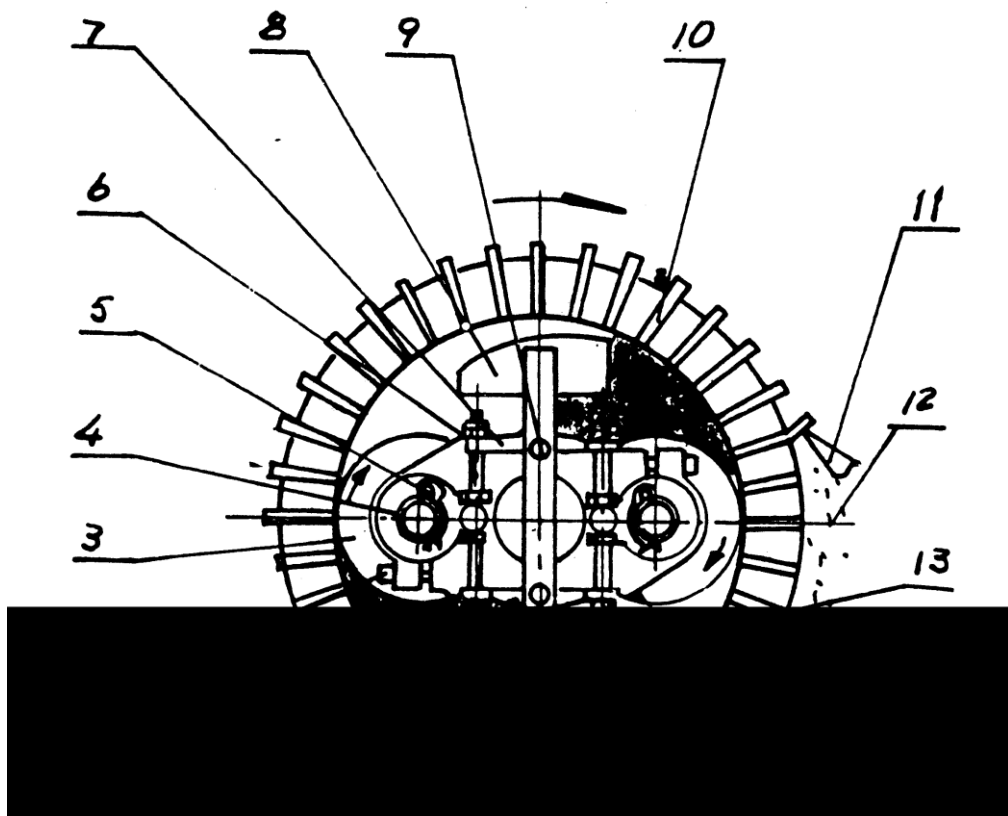

Figure 12 PELLET CHAMBER WORKING PRINCIPLE
See Figure 12 for the structure and working principle of the pellet chamber. It mainly consists of a die (1), two rollers (3), deflectors (8), knives (11) and screw for adjusting the clearance between die and rollers.
4.2 Adjustment of die-roller clearance (see Figure 12)